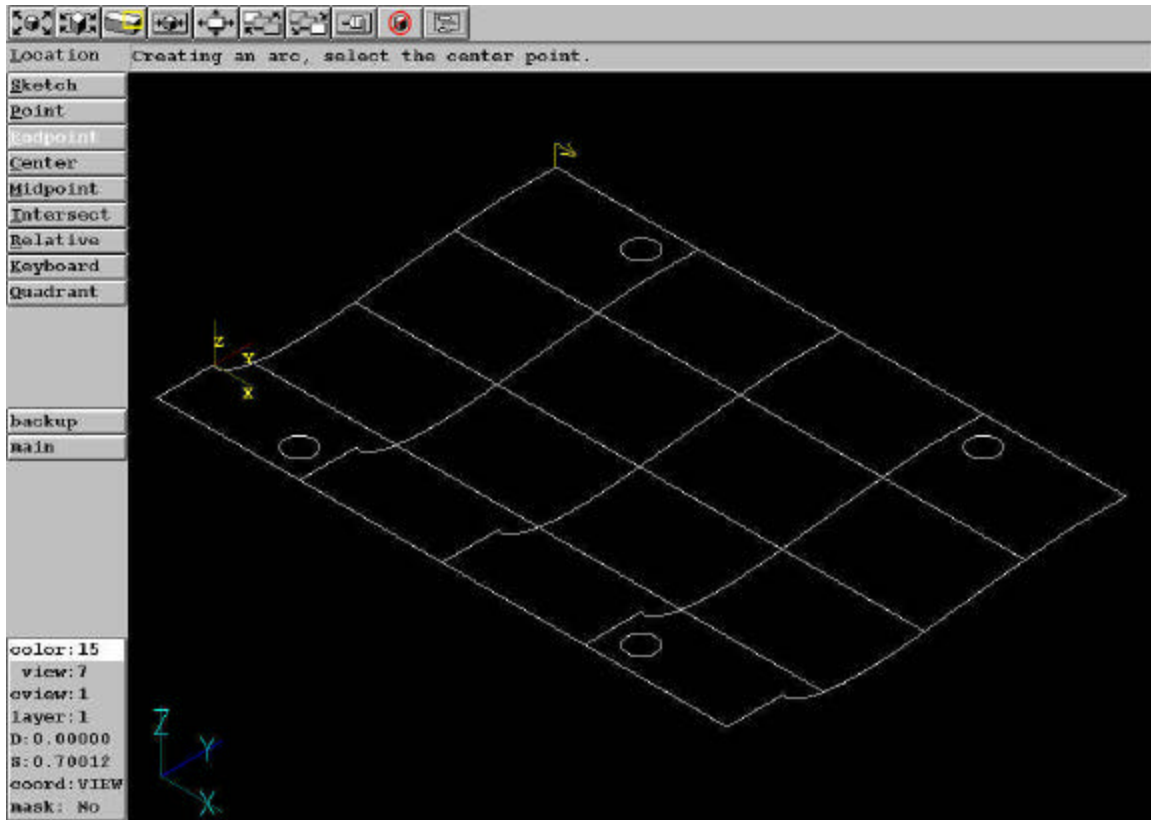

Figure 26: Alignment hole placement on mold
- 6.) A 1/2" diameter circle will appear ahead of the leading edge of the wing. The above procedure needs to be repeated for circles with centers at (8,-0.5,0), (2,5.5,0), and (8,5.5,0). The final product will appear as in figure 26.